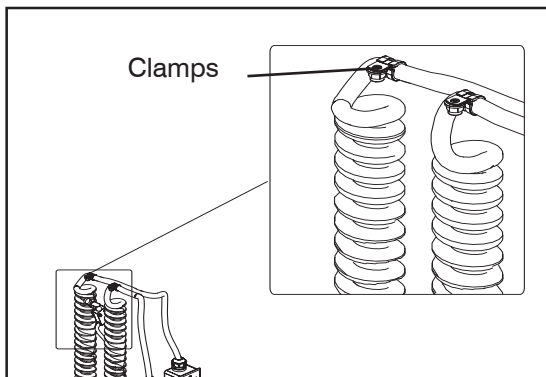

Figure 5-39. Mast 4 Electrical Cable Installation Procedure
5. Organize the platform cables and the platform power outlet box to their correct orientation, and install the cable clamps at the top of the mast 4. Use tie wraps if required. See Figure 5-39.